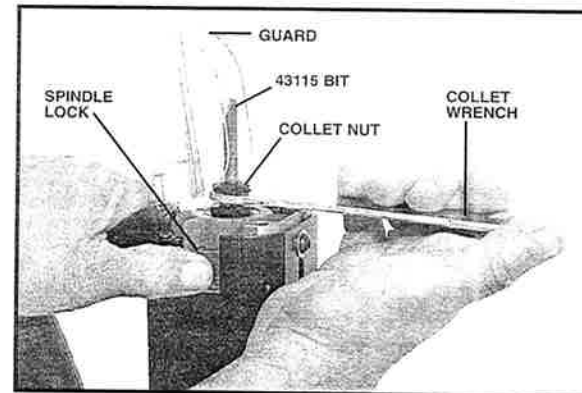

Fig. 4
4. Depress spindle lock (Fig. 4) and rotate collet nut clockwise by hand until lock engages hole in motor spindle.